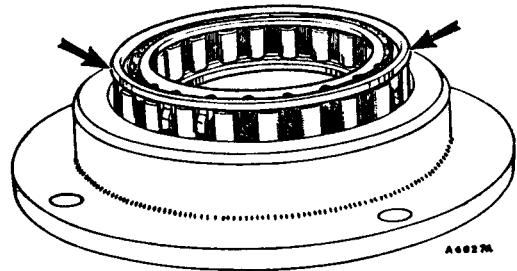

Fig. Fa.64
6. Reassemble the thrust bearing, intermediate spring ring, first gear free-wheel (lip facing outwards, see Fig. Fa.64), spring ring, and refit the circlip.